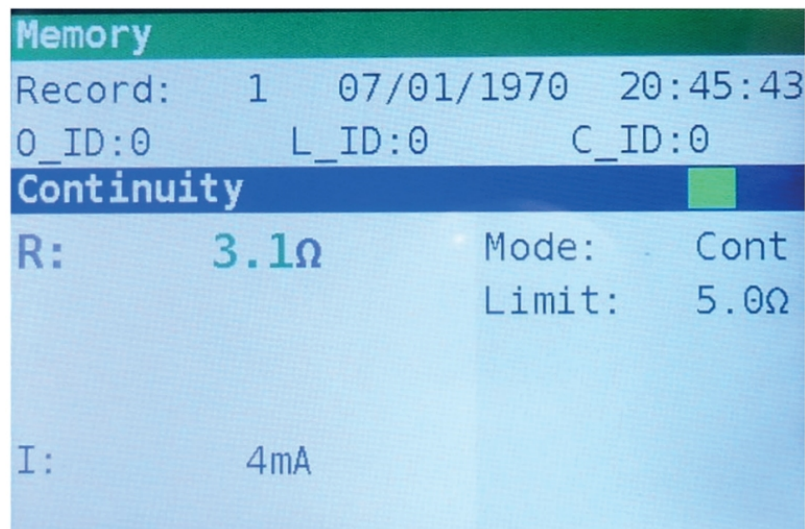

Figure 7.4: Saved results
**Step 4** To store the result of last measurement, press TEST key. The following will be displayed (Figure 7.4).